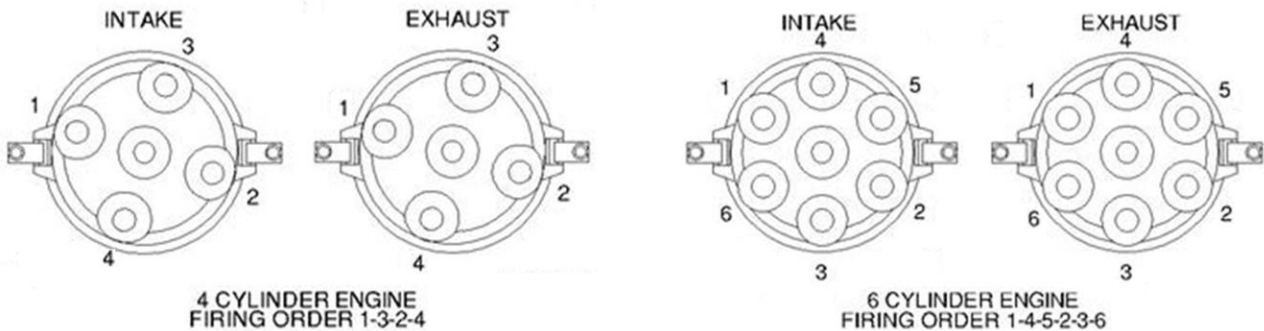

Figure 201 – Firing Order of Distributor Caps
- Note that in Figure 201 all distributors are shown looking from the flywheel end of the engine. “Exhaust” and “Intake” refer to the position of the spark plugs in the cylinder – on the exhaust or intake side of the head.